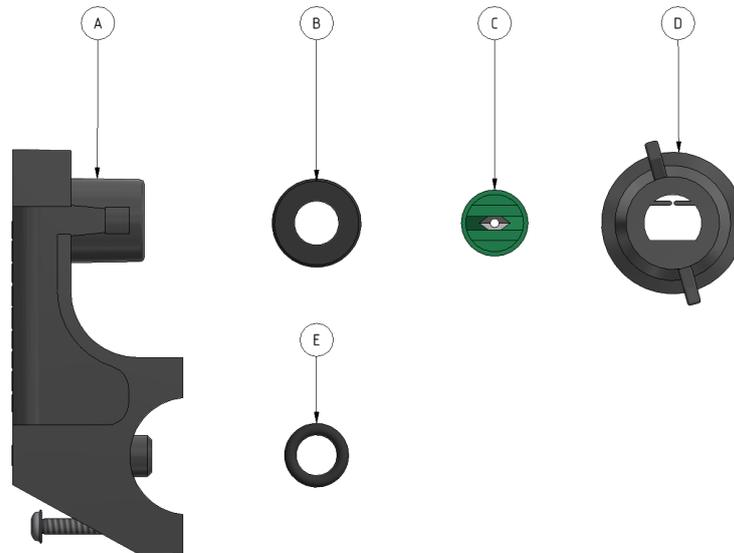

Figure 7.3 Nozzle components.
12. Turn the main power switch to the OFF (0) position.
**WARNING!** It is important that the nozzle nuts (see Figure 7.3) are refitted correctly after the nozzles have been cleaned. If a nozzle nut becomes loose, the nozzle tip will fall out and the water jet created will then destroy the filter media.